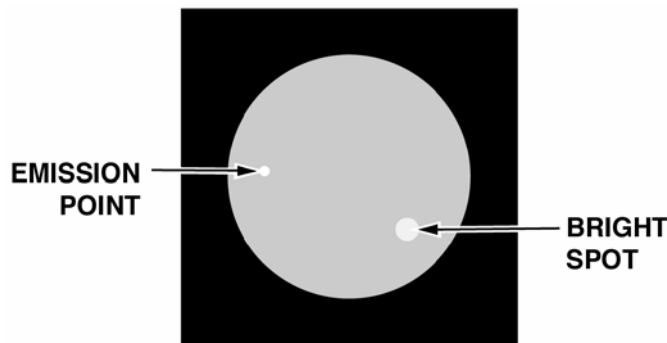

Figure 2-3. Bright Spots and Emission Points.
(3) Flashing, Flickering, or Intermittent Operation. The image may appear to flicker or flash. This can occur in either one or both monoculars. If there is more than one flicker, check for loose wires. Record this specific defect on the maintenance forms, and if possible, indicate the rate of flickering or flashing. The binocular must be repaired by AVIM.
(4) Emission Points. A steady or fluctuating pinpoint of bright light in the image area that does not go away when all light is blocked from the objective lens of that monocular (see Figure 2-3). The position of an emission point within the image area does not move. If a bright spot remains when you cup your hands over the objective lens (subparagraph 2-9c(1) below), place the goggles onto the TS-3895A/UV test set and
(1) **Bright Spots.** These are signal-induced blemishes in the image area caused by a flaw in the film on the MCP. A bright spot is a small, nonuniform, bright area that may flicker or appear constant (Figure 2-3). Not all bright spots make an image intensifier rejectable. Remove the binocular from the test ports (keeping the goggle connector attached if using the TS-3895A/UV) and cup your hand over the lens to block out all light. If the spot remains, it is an emission point; refer to subparagraph 2-9b(4) above for evaluation. If the spot disappears, it is a bright spot. Place the goggles onto the TS-3895A/UV test set and turn the selector knob to HIGH LIGHT for 15 seconds and note the spot's location. Turn the selector knob to LOW LIGHT and wait another 15 seconds. If the spot disappears or is faintly visible, it is acceptable. If the spot interferes with the ability to perform the mission, AVIM must replace the image intensifier.